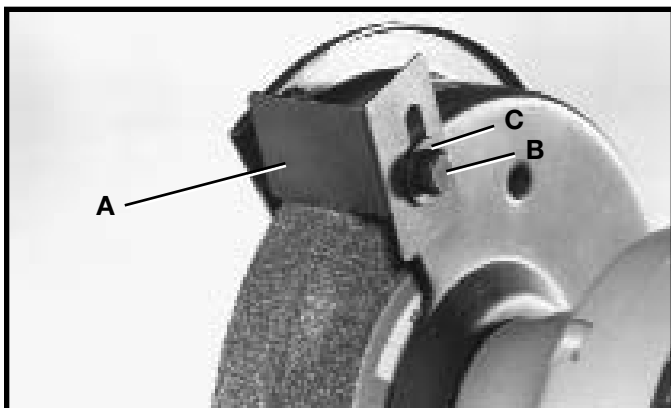

Fig. 5
The spark guard (A) Fig. 5, is mounted to the side of each wheel guard, using the 1/4-20x1/4" hex head screw (B) and 11/16" flat washer (C) as shown. The spark guard (A) should be adjusted as close as possible to the grinding wheel so that sparks never strike the operator's hand. As the wheels wear down, the spark guard (A) should be adjusted accordingly.